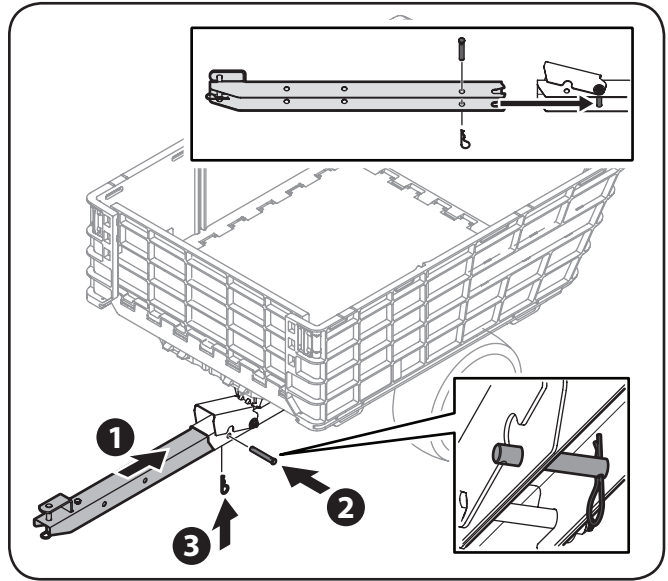

Figure 3-9
- Remove the clevis pin and the cotter pin from the tongue bracket. See the inset in Figure 3-9
- Slide the tongue assembly into the tongue bracket as shown in Figure 3-9. Line up the rear-most hole with the hole in the tongue bracket and insert the clevis pin through the tongue assembly and the tongue bracket. Secure the clevis pin with the cotter pin as shown in Figure 3-9.
- Be sure that the clevis pin is installed on the interior of the tongue assembly and the tongue bracket as shown in the inset in Figure 3-9.